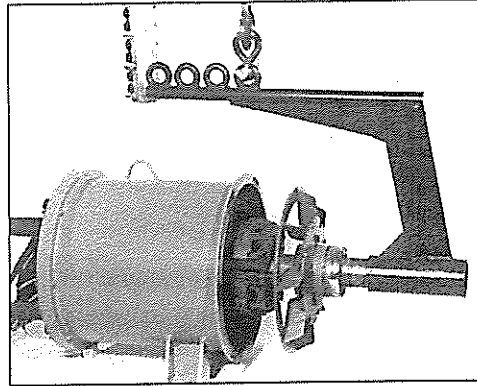

Figure 6-29
6. Using a rotor lifting fixture and a suitable hoist, carefully remove the rotor assembly from the main stator and frame assembly through the drive end (figure 6-29).